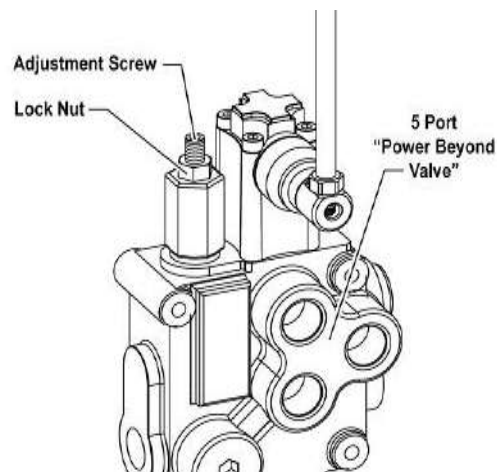

Figure 7. Five Port Valve
1. On or adjacent to the five port valve there is an adjustment screw. See Figure 7.